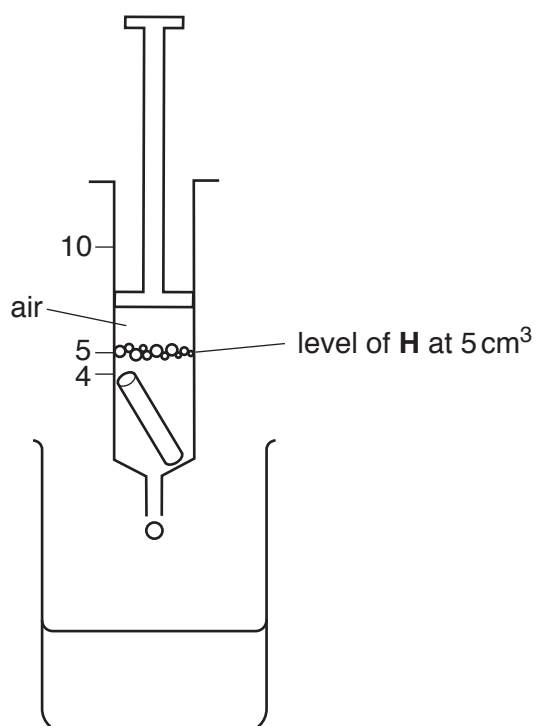

Fig. 1.7
10. Hold the syringe above the beaker containing **H** and push the plunger to adjust the level of **H** to the 5 cm^3 mark in the syringe, as shown in Fig. 1.7.